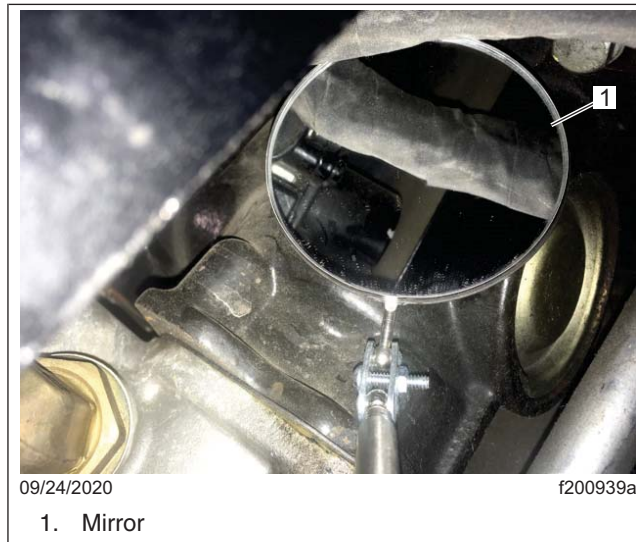

Fig. 16, Inspection by Mirror
- At the key chaffing points, inspect the engine harness for damage. Pull the harness away from the brackets, using a mirror as needed. See Fig. 16.